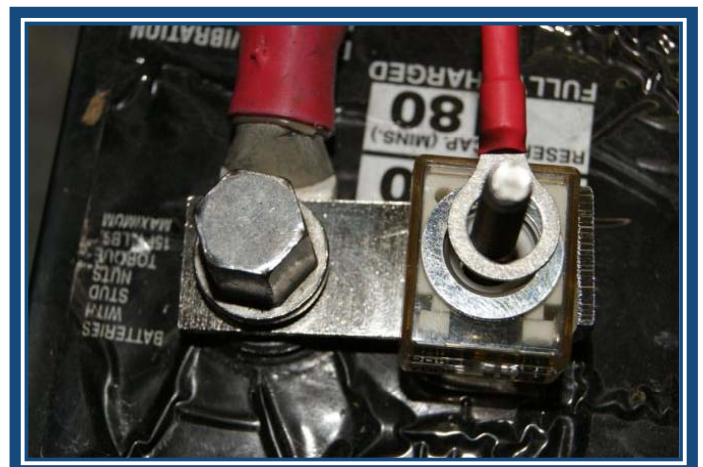

Figure 15
**Step 15:** Install the 3/8" cable end to the red wire by stripping about 1/4" of the insulation off of the wire. Next slide the piece of red heat shrink on the wire, then crimp and solder the 3/8" eyelet onto the end of the wire. Slide the heat shrink over the connection and apply heat. Connect the wire to the fuse cube assembly and tighten the nut properly. (See Figure 15)